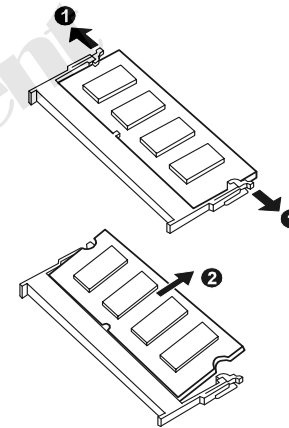

Figure 2-13 Remove the SO-DIMM
3. Pull the retaining clips outwards (❶) and remove the SO-DIMM (❷). (Figure 2-13)